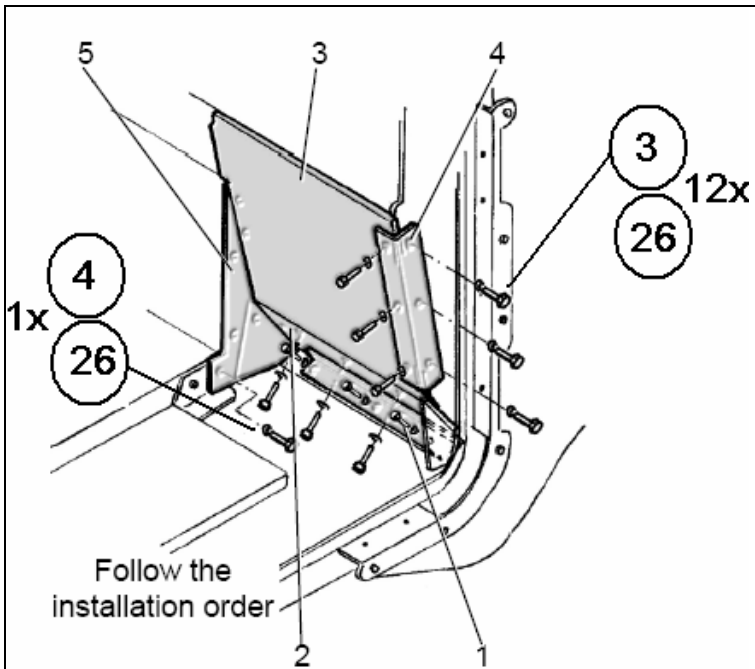

Figure 5-51. Firewall Kit Installation (1 of 4).
1. Install components in the order defined in Figure 5-51. It is essential that the fasteners are not tightened until the assembly is complete, since the fasteners must be loose to allow alignment of the components.